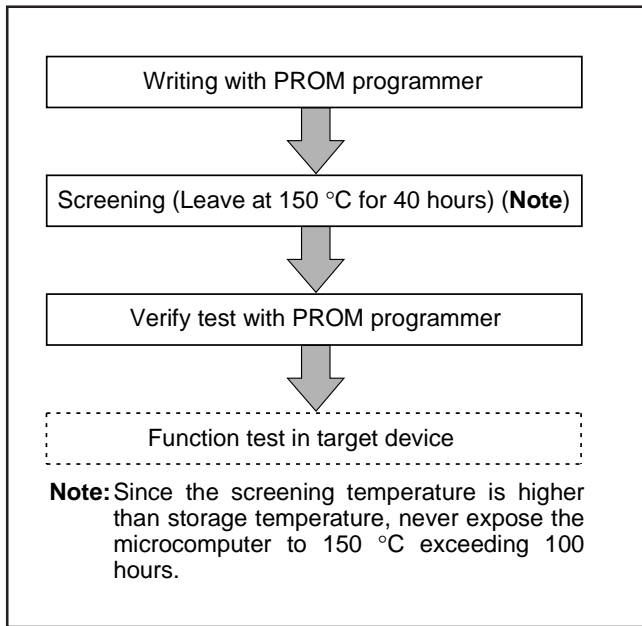

Fig. 74 Flow of writing and test of the product shipped in blank
(2) Notes on handling
- ① A high-voltage is used for writing. Take care that overvoltage is not applied. Take care especially at turning on the power.
- ② For the One Time PROM version shipped in blank, Renesas Technology Corp. does not perform PROM writing test and screening in the assembly process and following processes. In order to improve reliability after writing, performing writing and test according to the flow shown in Figure 74 before using is recommended (Products shipped in blank: PROM contents is not written in factory when shipped).